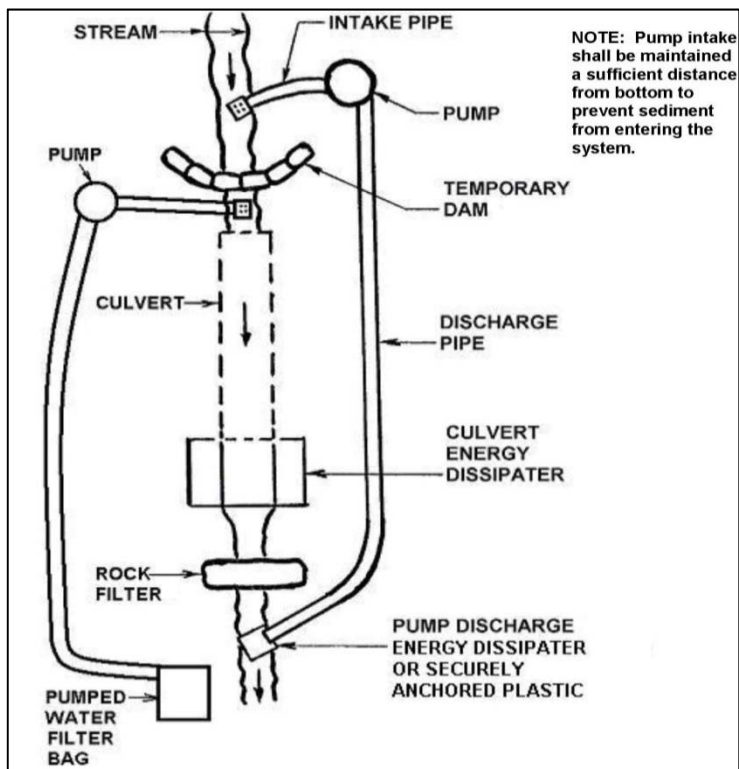

Figure 60: Temporary Stream Diversion: Pump Around In-Channel Work Area
- See **Figure 60** for typical layout of pump bypass.